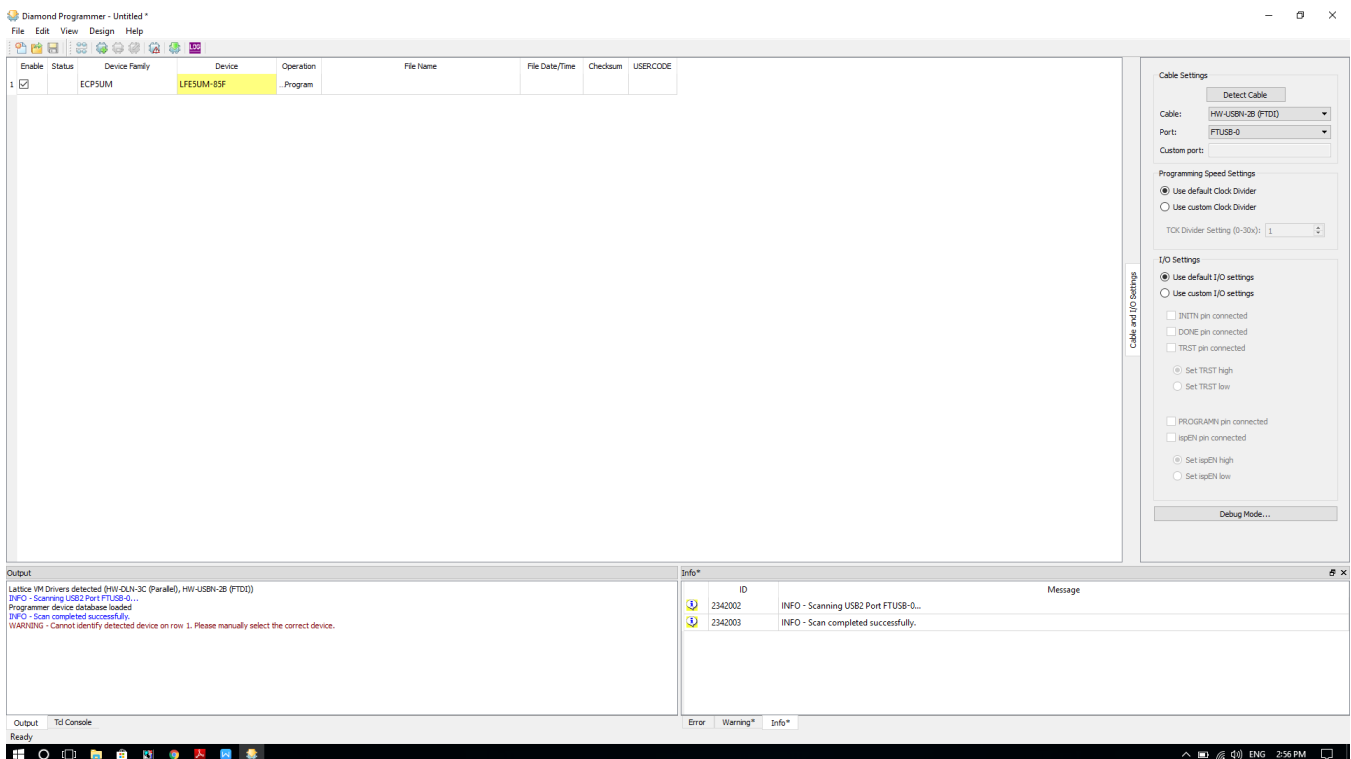

Figure 24. FPGA Device Scan
2. The FPGA device (LFE5UM-85F) is detected in the programmer window, as shown in Figure 24.